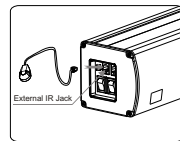

Figure 27
3. Use external IR Receiver if the IR window is hidden (by installation) or blocked (Figure 27)